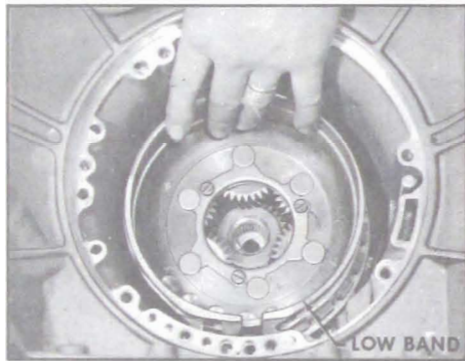

Figure 5-307
2. Install low band into case. See Figure 5-307,